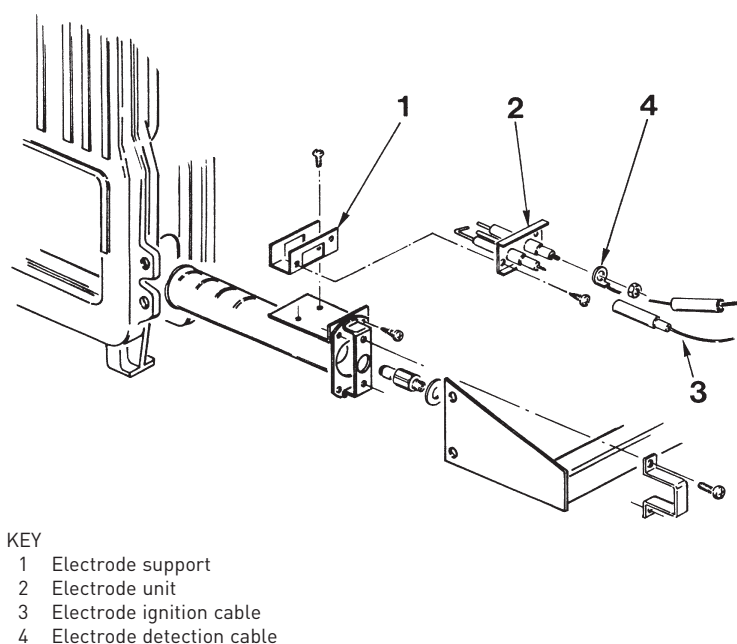

Fig. 8
3.1 CONTROL BOX (fig. 8)
These guarantee maximum safety with intervention times, for accidental switching off or gas failure, within 8 and 4 seconds (fig. 8).